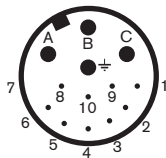
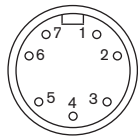

Abb. 1: Servomotor: Connector, 14-pole (male; view to servomotor)
Abb. 2: Servomotor: Connector, 7-pole (female; view to servomotor)
The servomotor has interfaces for the spindle connecting line (fig. 1 on page 49) and for the measurement transducer cable (fig. 2 on page 50).
2. Connect the measurement transducer cable to the following measurement transducer to the connector (see fig. 2 on page 3), if the latter is available.